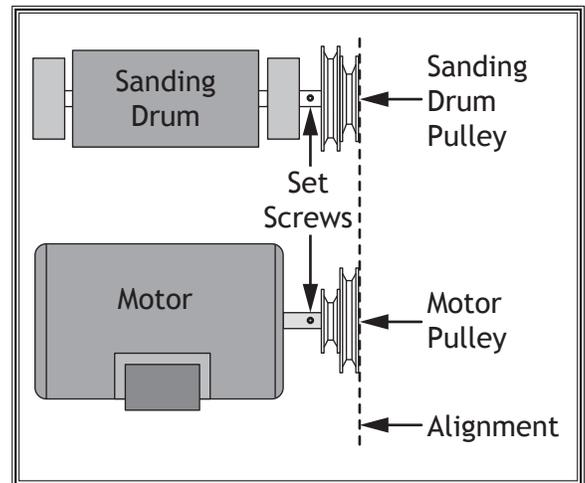

Figure 32. Pulleys must be parallel and aligned.
3. Looking from top, sight down outside face of pulleys to see if sanding drum and motor pulleys are parallel and aligned with each other (see **Figure 32**).
6. Tighten set screws, replace V-belt, and repeat **Step 3** to verify proper pulley alignment. Pulleys should be parallel and aligned, as shown in **Figure 32**, when belt is properly tensioned.